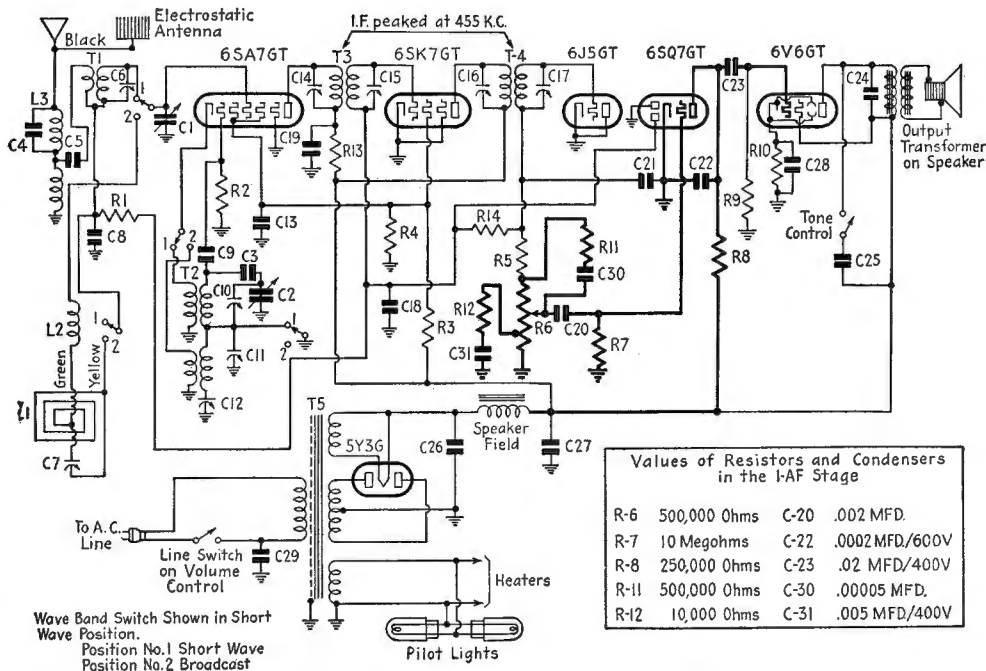

FIG. 11-24.—Emerson Model EQ-368 receiver. The first AF circuit is shown in heavy lines.
Figure 11-24 illustrates some of the points taken up in this chapter on the first AF stage. Note the tone-compensation circuit connected to the volume control *R-6*. At high-volume levels the filter is ineffective. When the potentiometer arm is in a low-volume position near the tap, condenser *C-31* and resistor *R-12* by-pass high audio frequencies to ground. Since the attenuation of very high audio frequencies will be excessive, the circuit composed of *R-11* and *C-30* restores some of these frequencies to the arm of the volume control. The net result is an increase in low AF response at low-volume levels without entirely removing the high audio frequencies.
2. The receiver of Fig. 11-24 has poor tone quality. A voltage check shows 50 volts on the first AF plate. What is likely to be wrong and how would you confirm your assumption?
3. The receiver of Fig. 11-24 has a noisy volume control. After the volume control is replaced with an exact replacement, the volume remains at one level regardless of the position of the control arm. What is wrong? How would you check to prove it?